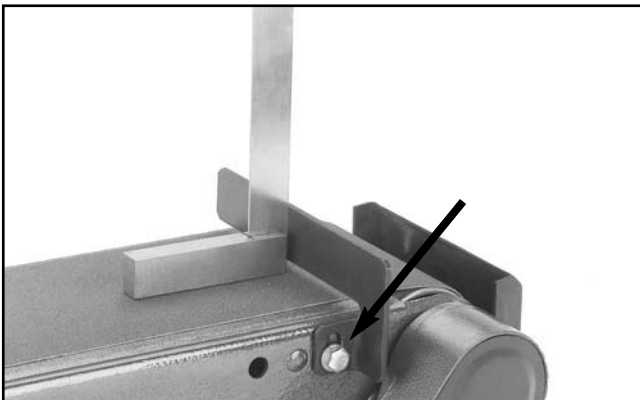

Figure 12. Squaring the back stop
1. Screw a hex bolt, with a flat washer and a lock washer on it, through the back stop and into the hole shown in **Figure 12**.
2. Square the back stop as shown in **Figure 12** and tighten the hex bolt.